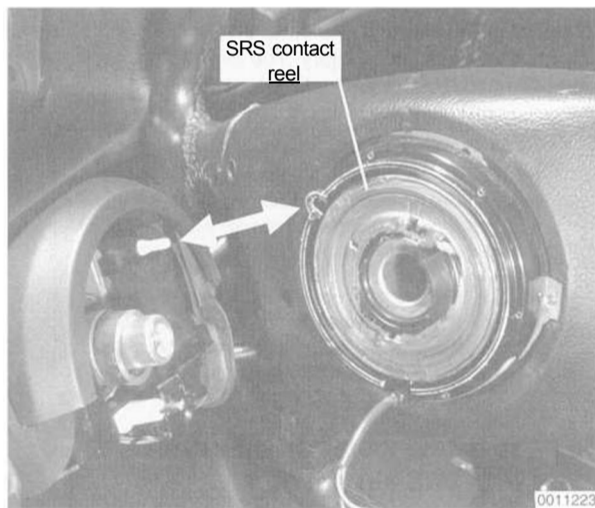

Fig. 1. Install steering wheel so that locking pin in column aligns with cutout in contact reel (**arrow**).
The SRS contact reel is mounted to the rear of the steering wheel hub. The contact reel is a wound coil of wire that ensures continuous electrical contact for the air bag unit. Once the steering wheel mounting nut or bolt is removed the contact reel is locked in the center position and its position must not be altered. See Fig. 1.
- Install the steering wheel while aligning the matching marks. Make sure the locking pin engages the cutout in the contact reel. See Fig. 1.